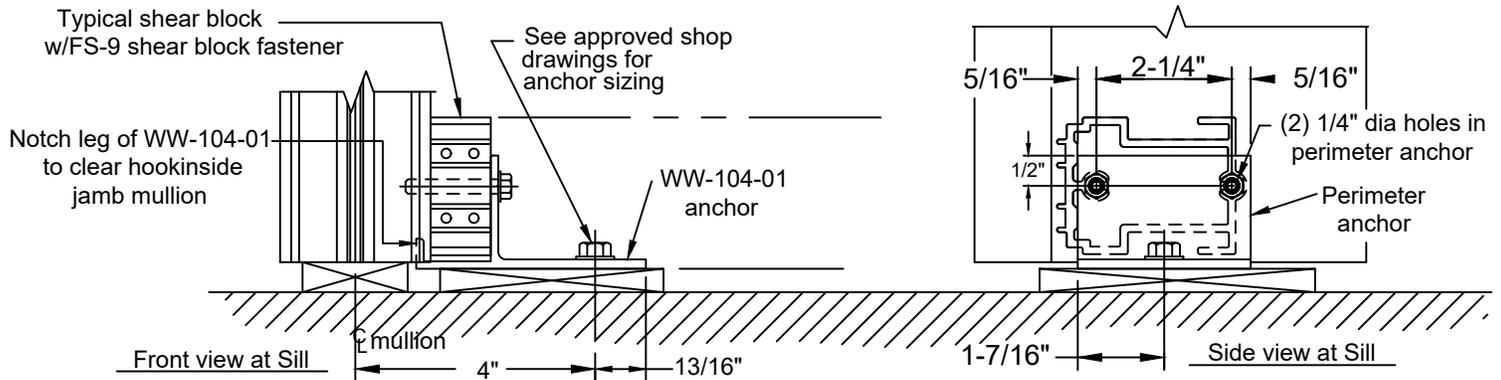

Figure 6
NOTE: If roll-over horizontals are used, all vertical mullions can be installed first. If tubular horizontals are used, the wall must be stick erected. Last bay tubular horizontals must be notched. See FIGURE 6. Option: Use roll over horizontals at last bay to avoid notch.
2.1.4 Attach shear blocks to all vertical members. SEE FIGURE 6 for proper orientation on mullion. For installations using the shear block anchors, attach to head and sill shear block. NOTE: Depending on the end reactions, either the shear block anchor or tee anchors can be used to anchor the wall. See page 13 for shear block anchor load capacity.
NOTE: If roll-over horizontals are used, all vertical mullions can be installed first. If tubular horizontals are used, the wall must be stick erected. Last bay tubular horizontals must be notched. SEE FIGURE 6. Option: Use roll-over horizontals at last bay to avoid notch.